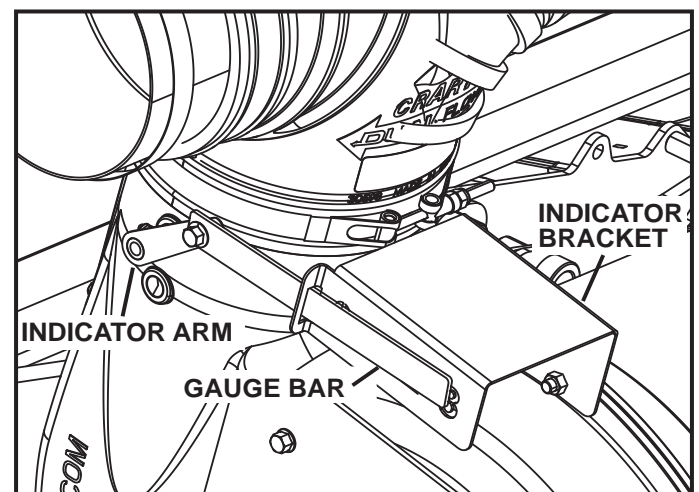

Figure 30: Damper position indicator installed
- Using the hardware from arrow indicator, mount the indicator arm onto the fan damper. Ensure that gauge bar is inserted in slot in indicator bracket so that the bar shows the damper position on the scale (Figure 30).